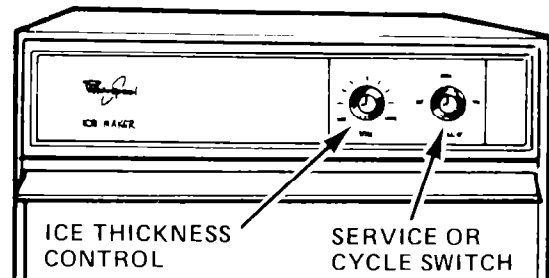

FIGURE 1
1. Select ice thickness (Figure 1). The ice maker has been pre-set to produce ice approximately  $\frac{1}{2}$ " thick, while operating in a room ambient of 70°F (21°C).